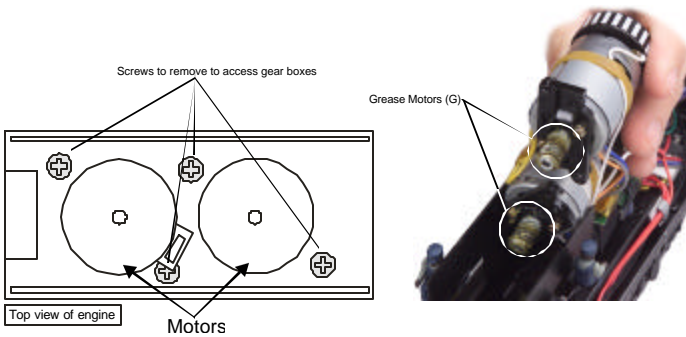

Figure 7. Greasing the Motor's Worm Gears
2. Once the cab is removed, remove the screws that hold the motor mounting plates to the chassis. You will need a long, skinny screw driver to reach the screws. There are 2 sets of screws on each motor (see figure 7 on pg. 11)